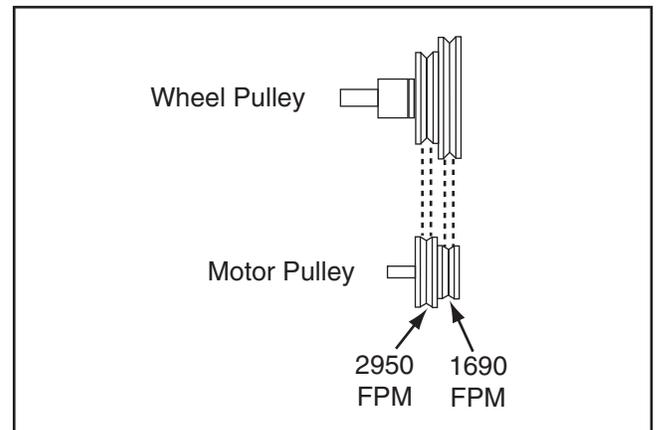

Figure 43. Drive belt position for the different speeds.
4. Position the V-belt on the pulleys as illustrated in **Figure 43** for the desired speed.